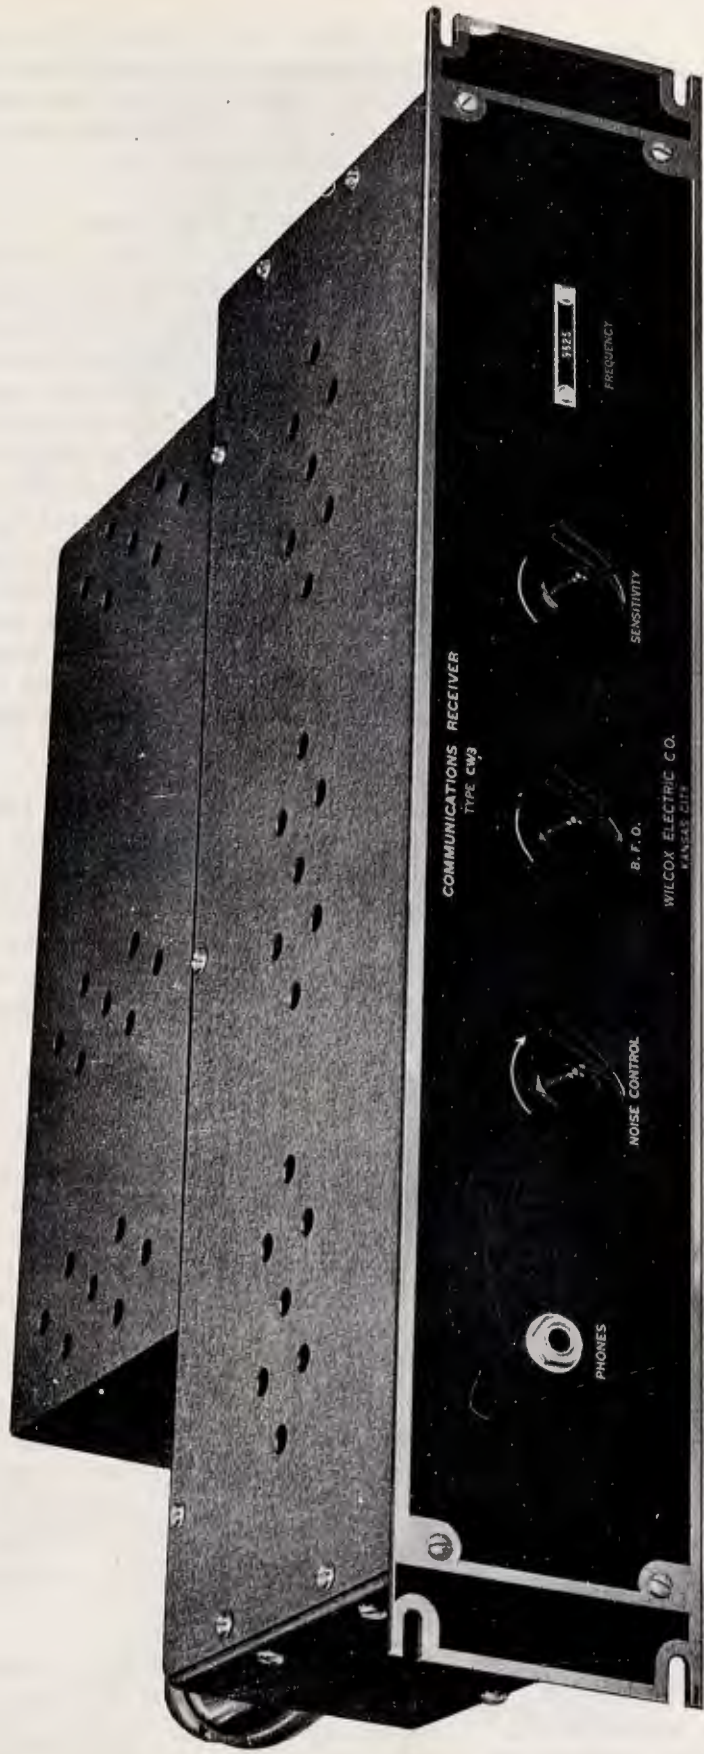

Figure 3. Radio receiver type CW3, front view.
Radio receiver type CW3 is a highly selective crystal-controlled superheterodyne receiver designed for the reception of c-w signals (fig. 3). The receiver may be operated at any frequency within the band of 1,950 to 16,500 kc. The total band is covered by four groups of plug-in coils. The receiver circuit is mounted on a 19-inch panel for rack mounting. It consists of a radio-frequency (r-f) amplifier stage, a mixer and high-frequency (h-f) oscillator stage, an intermediate-frequency (i-f) amplifier stage, a detector and beat-frequency oscillator (bfo) control tube, and an audio-output and output limiter stage. In addition, the receiver contains a rectifier circuit for converting the alternating-current (a-c) input to the proper direct-current (d-c) operating voltages. Three controls and a phone jack are mounted on the front panel of the receiver along with a nameplate giving the frequency to which the receiver is tuned. The tubes, coils, and crystal project from the rear of the panel and are covered by a removable dust cover. Connections to the receiver are made through a Jones plug and antenna connector also mounted at the rear of the unit.
15. CONTROLS ON RADIO RECEIVER TYPE CW3 (fig. 3).